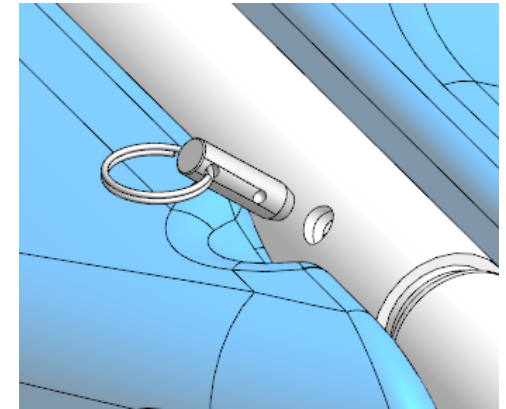

Fig. 8
- 4) With the two quick release pins pulled out of the frames of the **BACK FLOAT** (fig. 8), assemble the **MIDFRAME** to the **BACK FLOAT** by inserting the reduced ends of the widest end of the **MIDFRAME** into the frames of the **BACK FLOAT** and secure it with the two quick release pins attached to the **BACK FLOAT**.